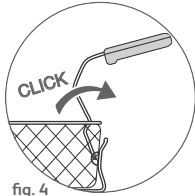

fig. 4
- Completely unfold the basket handle; a “click” indicates that it is correctly positioned – fig. 4.